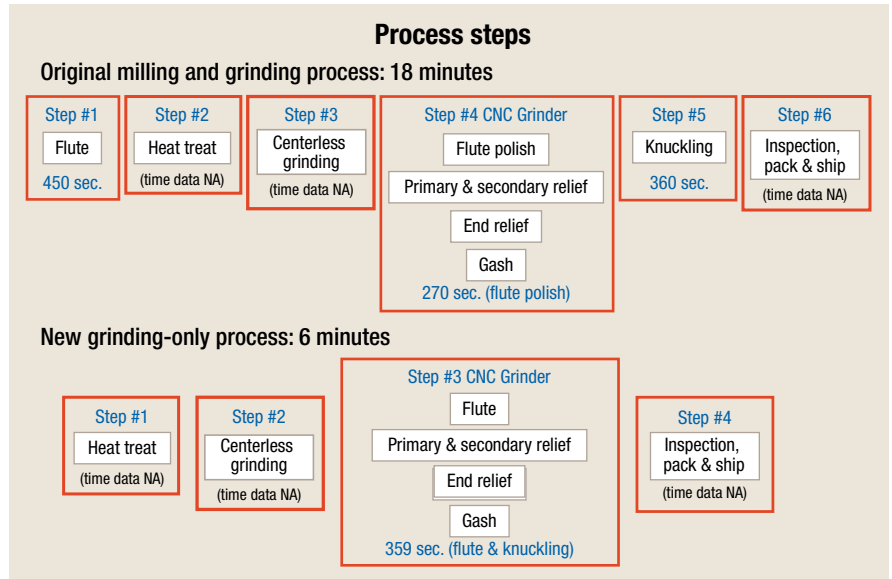

Figure 1: Parts per retrue and cycle time comparisons for CBN and hybrid metal/polyimide wheels.
**M**any cutting tool manufacturers already use CBN grinding wheels to grind small, round, HSS cutting tools from hardened blanks. However, recent field trials demonstrate that the latest superabrasive hybrid metal/polyimide-bond wheels, when automatically profiled on the machine, not only outperform milling in the production of large ( $\frac{3}{4}$ " and up) round HSS cutting tools, but also outperform other CBN wheels. An all-grinding process using hybrid wheels can reduce HSS toolmaking cycle time dramatically (Figure 1).
For companies currently milling flutes in soft blanks before heat treatment, this improvement in grinding efficiency makes the move from milling to grinding a more attractive option. Those tool-makers can switch to hybrid wheels to grind an entire tool from prehardened solid blanks, on one machine in one setup (Figure 1).
primary and secondary relieving, knuckling, end relief and gashing on a CNC grinder in a single setup, eliminating at least two handlings and increasing overall process efficiency. (Figure 1 compares the original process, requiring 18 minutes, with the new process, requiring 6 minutes.) Not only are there benefits from eliminating steps, but stock removal is much faster using grinding.